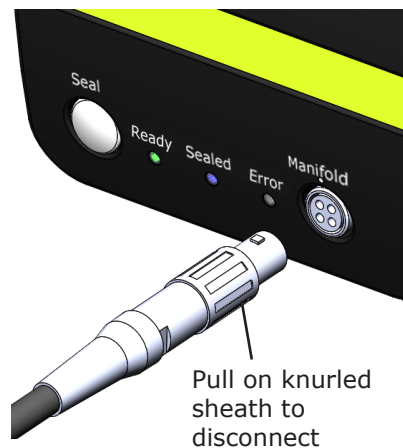

Figure 7. Connecting the manifold plug
- If the temperature controlled CellASIC® ONIX2 Manifold XT is being used, you must also connect the 4-conductor plug from the manifold. Align the red mark on the top of the plug to the dot on the front panel and push the plug into the socket labeled Manifold (Figure 7) on the front of the system. The plug can be removed by pulling on the sheath; be sure to grab only the knurled sheath when pulling to disconnect.